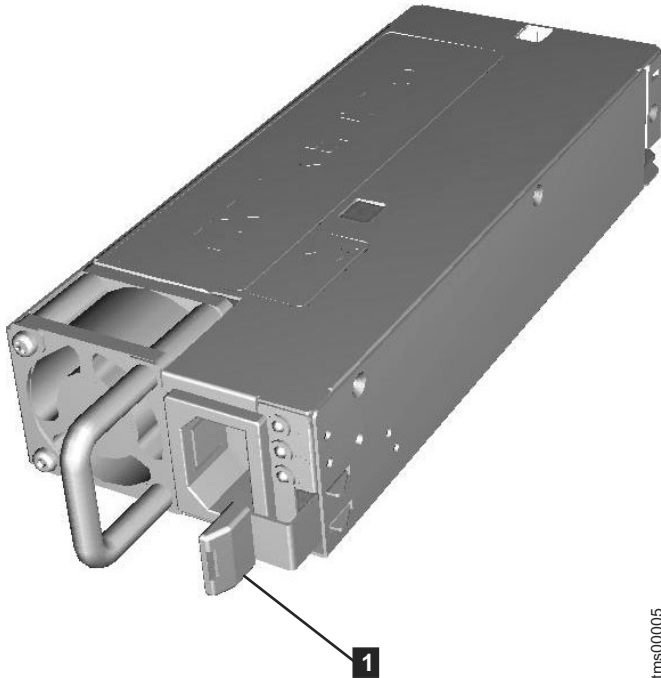

Figure 16. Power supply unit
4. To remove a power supply unit, press the release latch shown in Figure 16 on page 48 towards the handle, and then grip the handle and slide the power supply unit out of the enclosure.